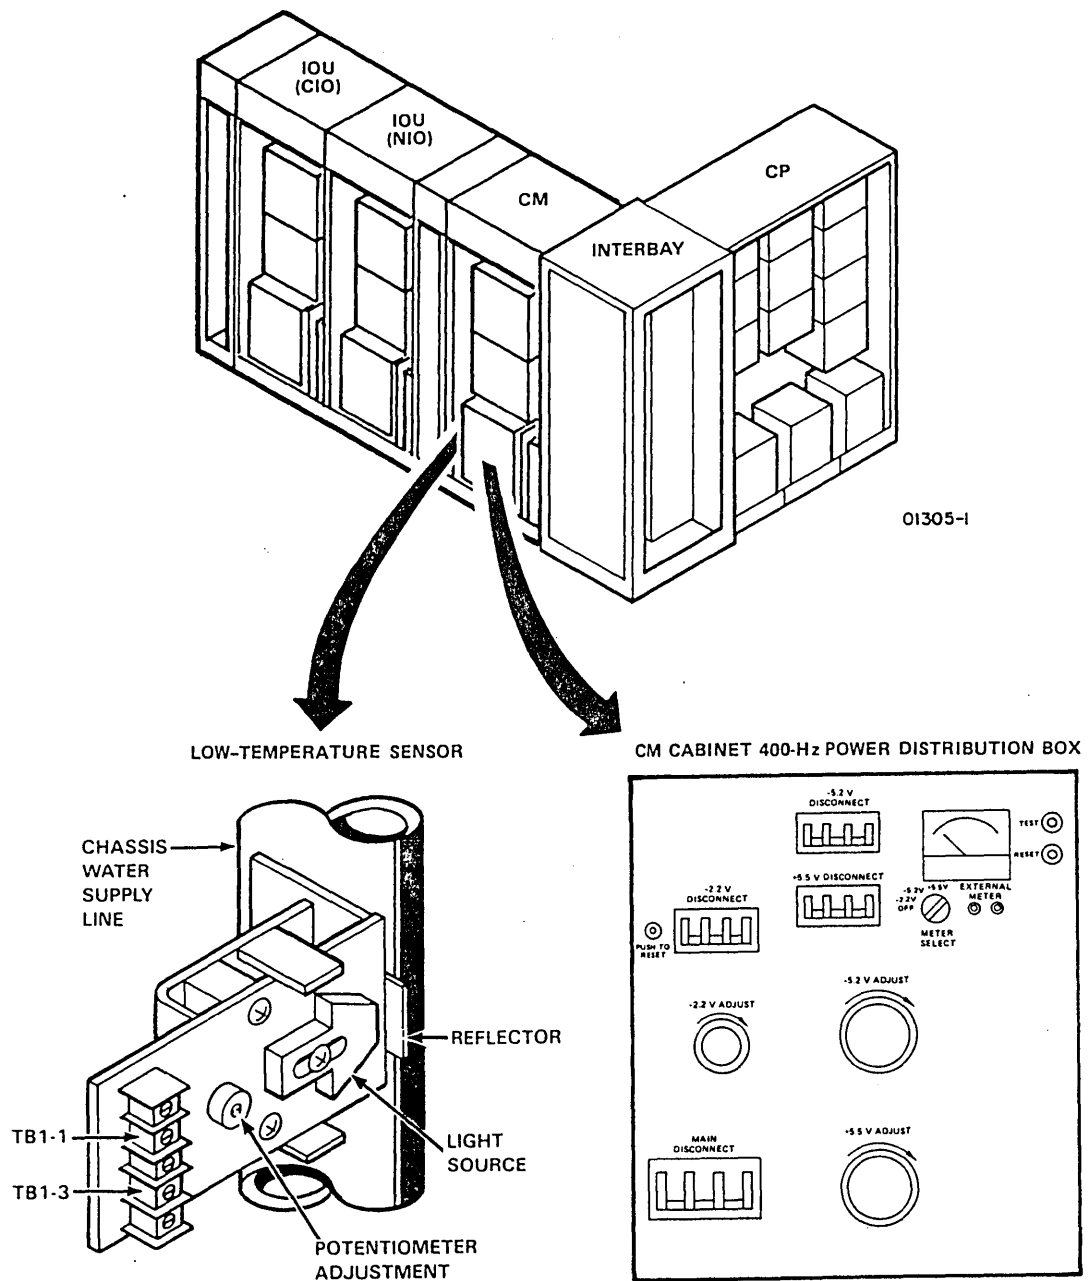

Figure 4-31. CM Power Controls and Adjustments
- ___ 2. Set following circuit breakers and voltage adjust knobs on CM power distribution box (figure 4-31) as follows: